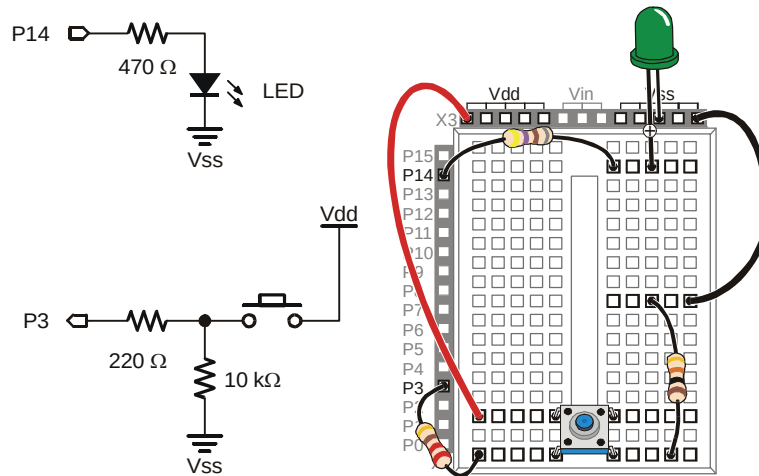

Figure 3-11
Figure 3-11 shows the pushbutton circuit used in the activity you just finished along with the LED circuit from Chapter 2, Activity #2.
- ✓ Build the circuit shown in Figure 3-11.